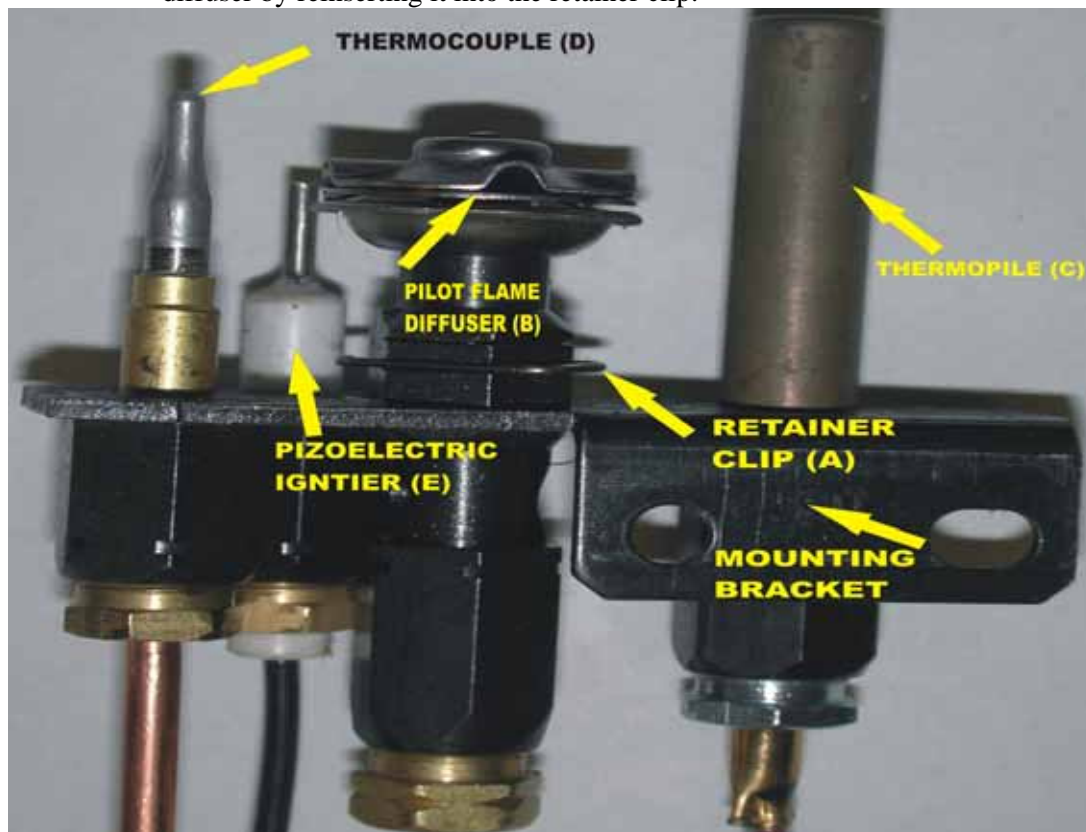

FIGURE 9: PILOT VALVE (back side)
- Remove the pilot flame diffuser (FIGURE 9, Item B) by pulling up on it. The retainer clip (FIGURE 9, Item A) should release the pilot flame diffuser with a light pulling motion.